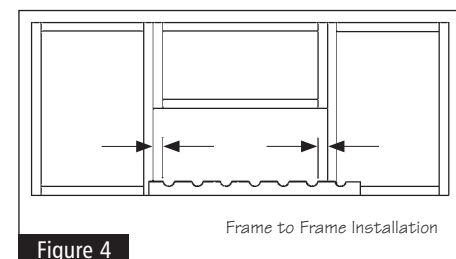

Figure 4
- **30" WIDE:** Trimming is required on both the Front and Back Racks. Hold racks against the cabinet sides/frames so that the distance from the edge of each cabinet to the first scallop is equal on both ends of the rack. Mark where each end of the racks overlap the cabinet sides/frames. Cut on marks for each end. Make sure each rack is cut exactly the same to ensure your wine bottles will be aligned after installation. See Figure 4.